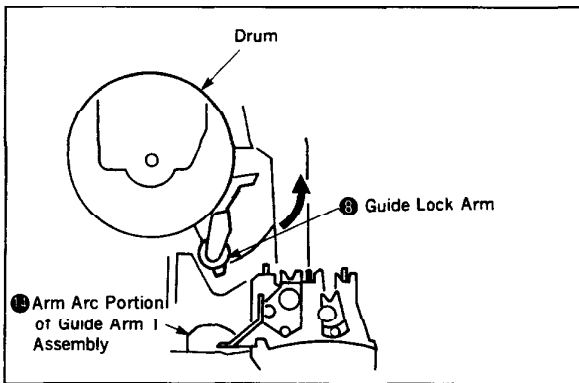
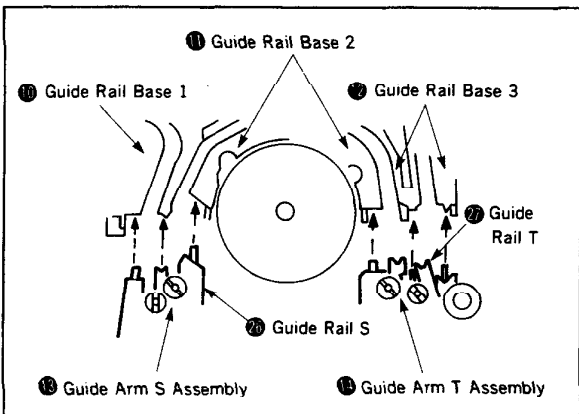

Fig. 15
Fig. 16
Simultaneously performing the operations above, push the roller of the guide lock arm ⑩ With the arm arc portion of the guide arm T assembly ⑪ (Fig. 15) to push the LS chassis assembly ⑦ in a direction of the arrow **E**, and at the same time, engage the claws of the guide rail base 1⑫, guide rail base 2⑬ and guide rail base 3⑭ with those of the guide rail S⑮ and guide rail T⑯. (Fig. 16)